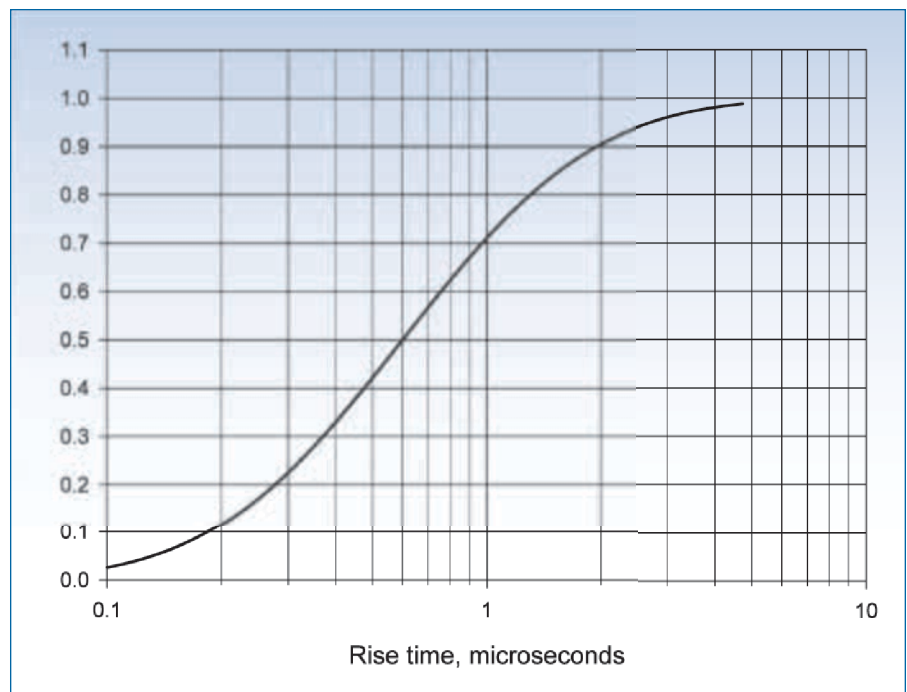

Figure 5: Probability the rise time of subsequent surge < chosen value median = 0.6, standard deviation = 0.92 (Table 2).
Subsequent strokes are mainly of interest for the high di/dt of their rise time, which combined with circuit inductance can produce enough peak voltage to cause insulation breakdown. The cumulative distribution for a subsequent stroke is shown in Figure 5.
12. M. J. Maytum, “The 2003 ITU-T Telecommunication Equipment Resistibility Recommendations”, *Compliance Engineering 2004 Reference Guide*, Figure 5. Combination generator current waveshape variation with external load.